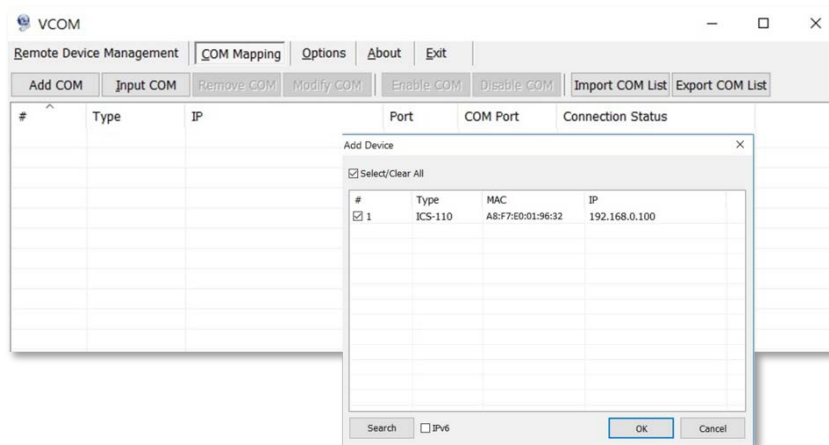

Figure 5-3-2 : VCOM software
2. Once a server has been found, select it to add it to the COM mapping list and Click "OK" to take effect as shown in Figure 5-3-2.